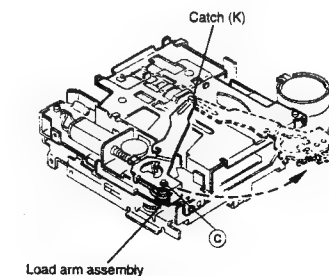

Fig. 12
1. Using tweezers, detach the Mylar washer ⑤ securing the load arm assembly and pull out the load arm assembly. (Fig. 12)
2. Shift the load arm assembly counterclockwise. (Fig. 12)
3. Remove the load arm assembly from the catch (K). (Fig. 12)